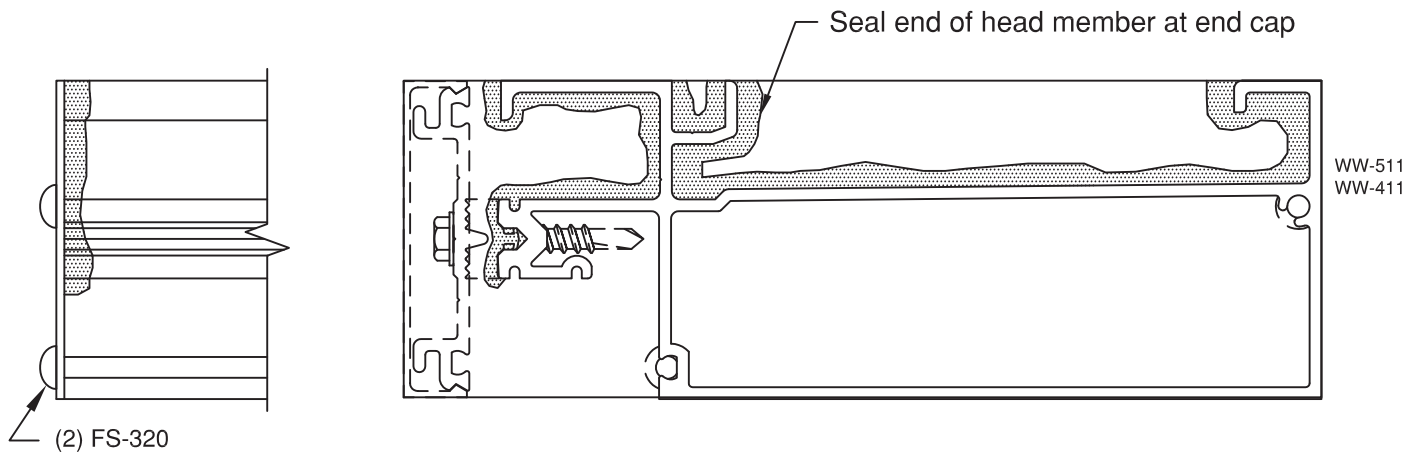

Figure 37
D.6 Attach end caps to ends of the head member, sealing as shown on **FIGURE 37**.